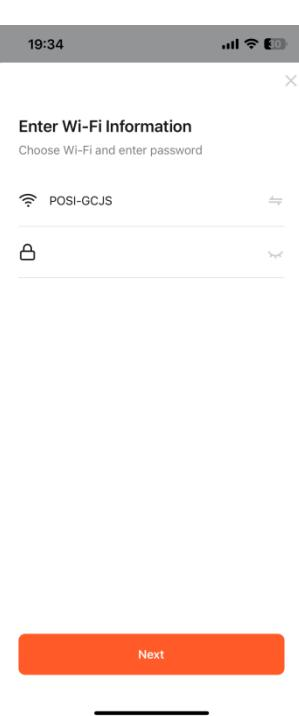
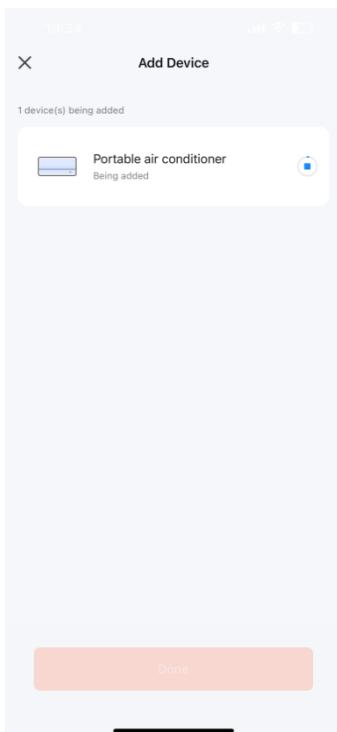

Fig.6
Fig.7
- 3.7.You will get the prompt that asks you to use 2.4 GHz Wi-Fi network and enter password. (Fig.6) Tap "Next" to get Fig.7